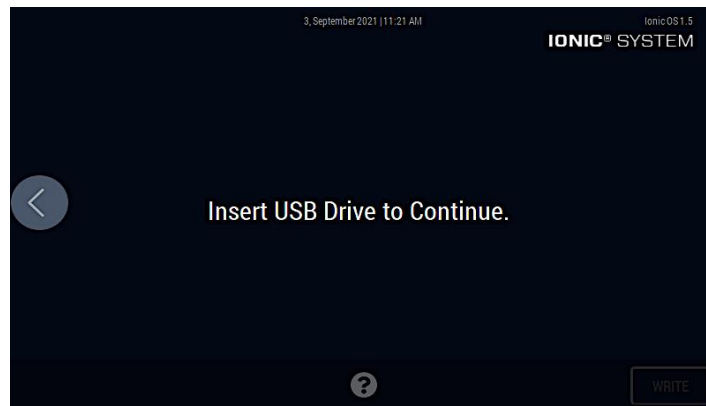

Figure 11. Save System Logs screen - Step 1
1. Press the **Save System Logs** button to save system log files to a USB device, as shown in **Figure 11**.